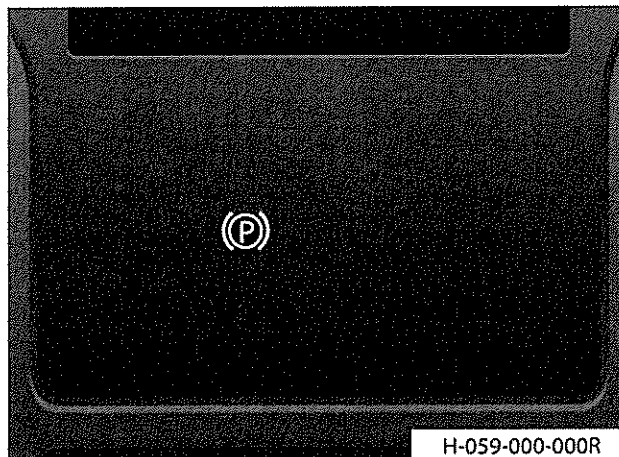

Fig 10 Parking check lamp
41 Refer to Fig 10. The check lamp comes on.
- 50.5 Refer to Fig 10. The parking brake check lamp comes on.